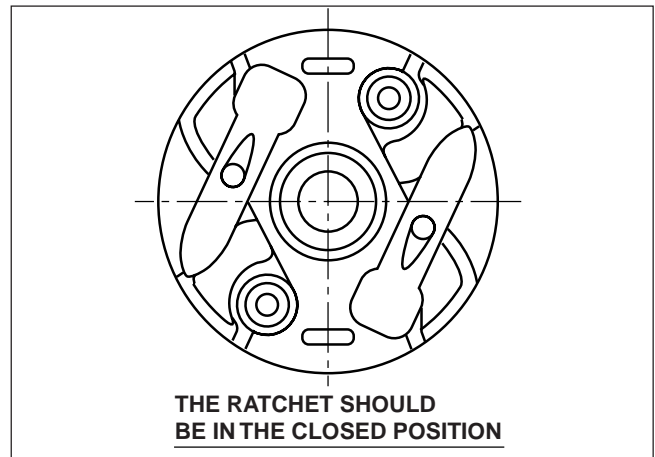

Fig. 12-5
(2) Mount the components
-1 Mount the ratchet into the reel. (Fig. 12-5)